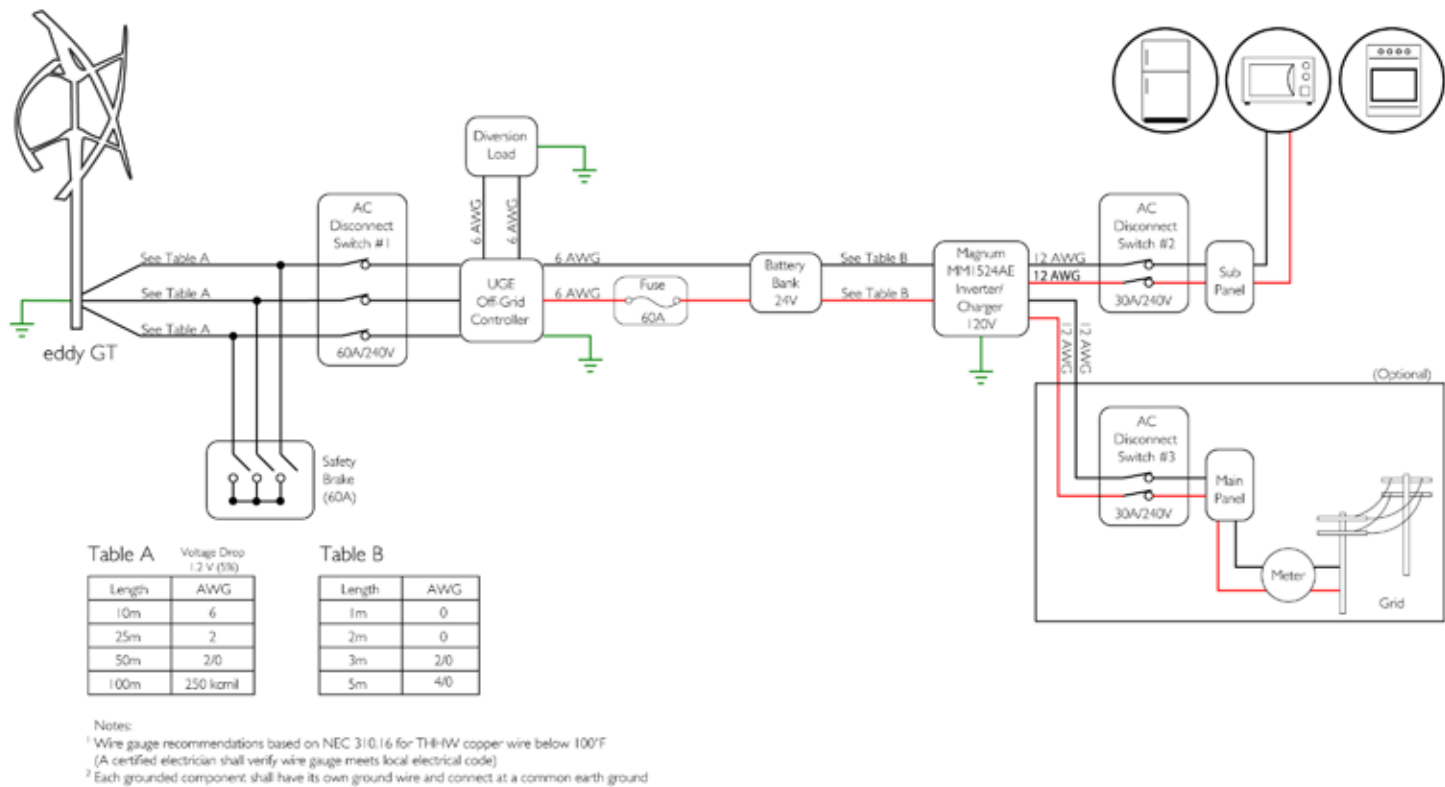

Fig. 7: UGE-1K-OGC and wire connection diagram
-  Follow the wire sizing guide provided in the **wire connection diagram** (Fig. 7);
-  Connect the wires **by following the wire connection diagram** in this manual (Fig. 7);